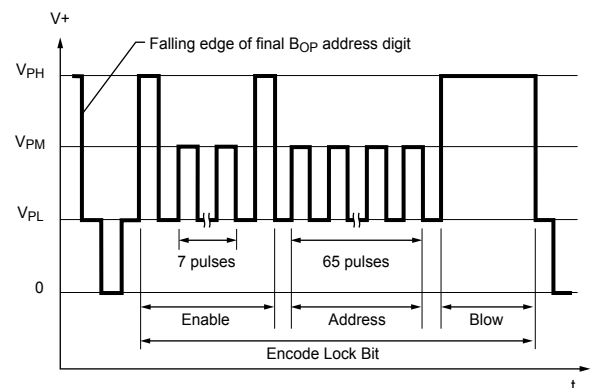

Figure 6. Pulse sequence to encode lock bit
**Lock Bit Programming.** After the desired  $B_{OP}$  calibration value is programmed, and all of the corresponding bitfield-level fuses are blown, the device-level fuse should be blown. To do so, the lock bit (bitfield address 65) should be encoded as 1 and have its fuse blown. This is done in the same manner as permanently setting the other bitfields, as shown in figure 6.